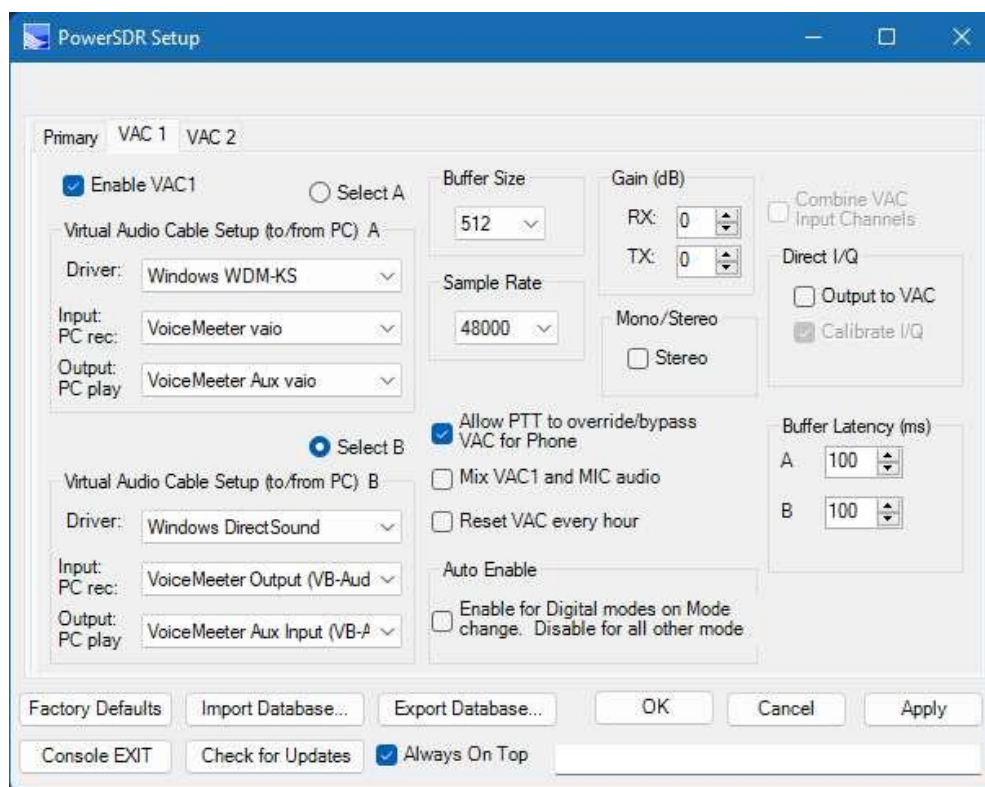

Figure 45: Setup -> Audio -> VAC1
2. In PowerSDR open the **Setup-> Audio-> VAC1** (see Figure 45 below). Check **Enable VAC1**, Select a Virtual Cable (like **VoiceMeeter Output**) as the **Input**, and a Virtual Cable (like **VoiceMeeter Aux input**) as the **Output**.